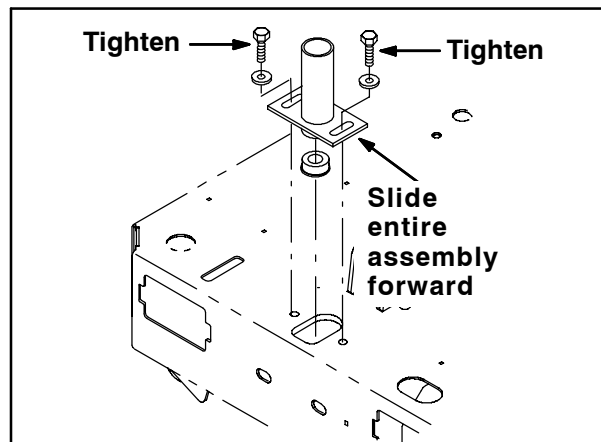

FIG. 15
24. Push the steering housing forward in the slots and tighten the hex screws to 37-48Nm (26-34 ft. lbs). Refer to Fig. 15.